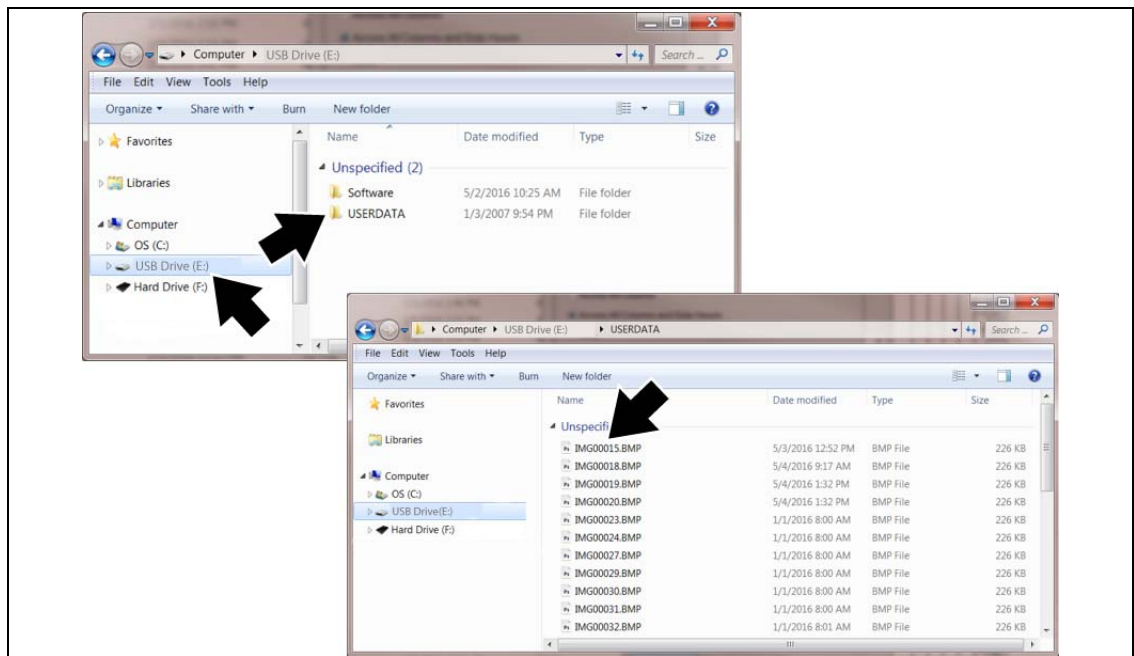

Figure 6-6 Typical PC screens
4. The Thermal Imager will be recognized by your PC as an external storage device (e.g. USB Drive (E:), USB Drive (H:), etc.) (Figure 6-6).
5. Using the standard Windows applications on your PC (e.g. Windows Explorer or Computer), select your saved files from the “**USERDATA**” folder on the Thermal Imager microSD card (Figure 6-6).